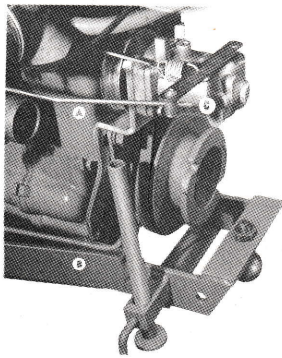

Figure 1
3. Remove hex head bolt (B-Figure 1) from crankcase, and nut and lockwasher (A-Figure 1) from fan housing.
4. Install governor and mounting bracket on tractor. Replace hex head bolt in crankcase. (See Figure 1). When installed correctly, governor lever (C-Figure 1) lies horizontally at the stop of the governor.